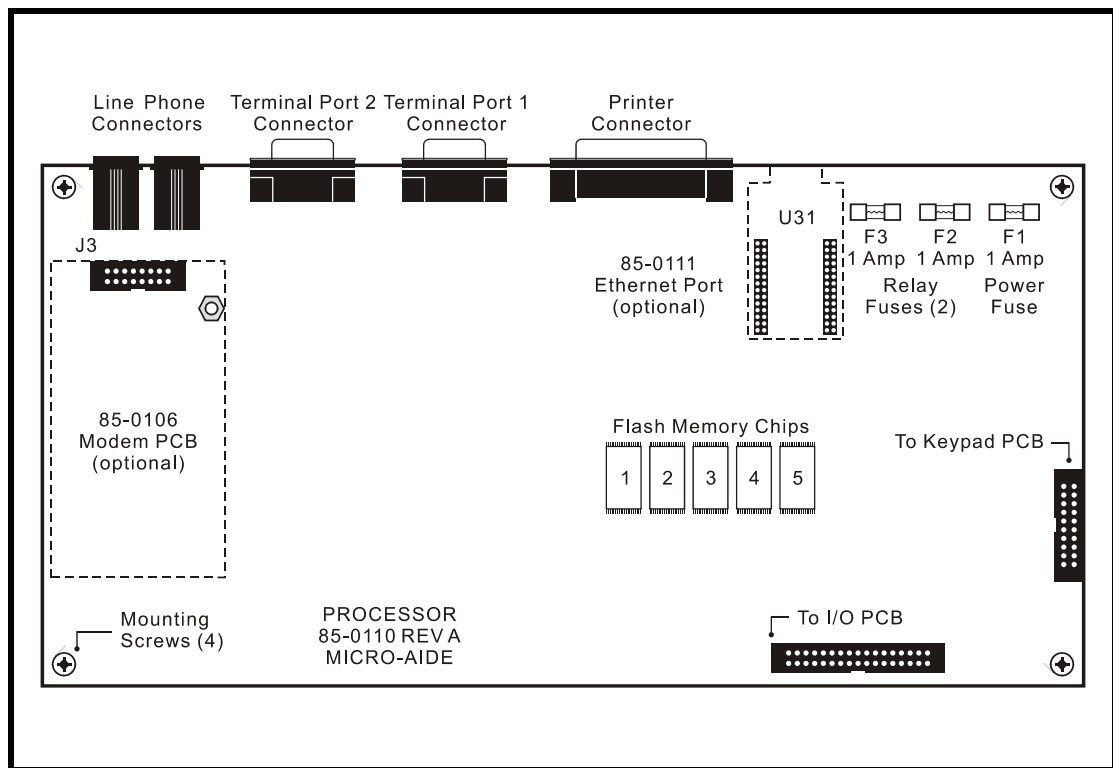

Figure 6 - CWR-272E Processor PCB
2. Locate the sixteen-pin male connector labeled "J3" near the upper left-hand corner of the Processor PCB. The modem connector is illustrated in Figure 6 on page 88.
3. Locate the 56-pin female socket labeled "U31" along the upper edge of the Processor PCB. The socket is illustrated in Figure 6 on page 88.